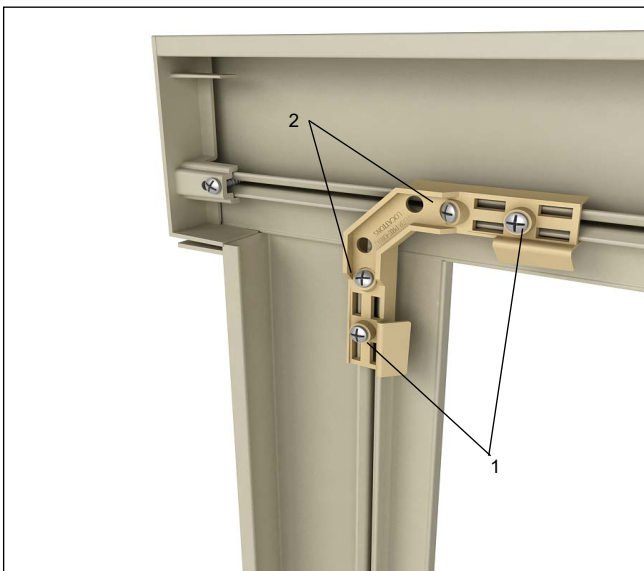

Figure 46
- Fasten the corner key with included screws. First apply the outside 90° screws (1) followed by the two inside angled screws (2). Fasten until joints are tight. Over tightening may cause screw channel to strip out. See *figure 46*.